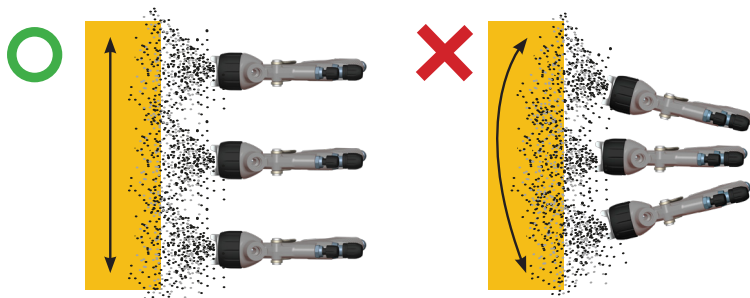

Fig.03
• **Gun head packing gland:** In order to replace the packing gland, remove the product regulator (see Fig.01), and extract the product needle and spring fitted with its stop (see Fig.02). Remove the needle and, using a 13 mm spanner, unscrew the three-piece packing nut (see Fig.03).
• **Packing gland of the air valve:** Remove the product regulator and extract the product needle and spring fitted with its stop (see Fig.01 and 02). With a 9 mm. Allen wrench, remove the guide box, extracting the valve spring and the valve (see Fig.03, 04, 05 and 06).